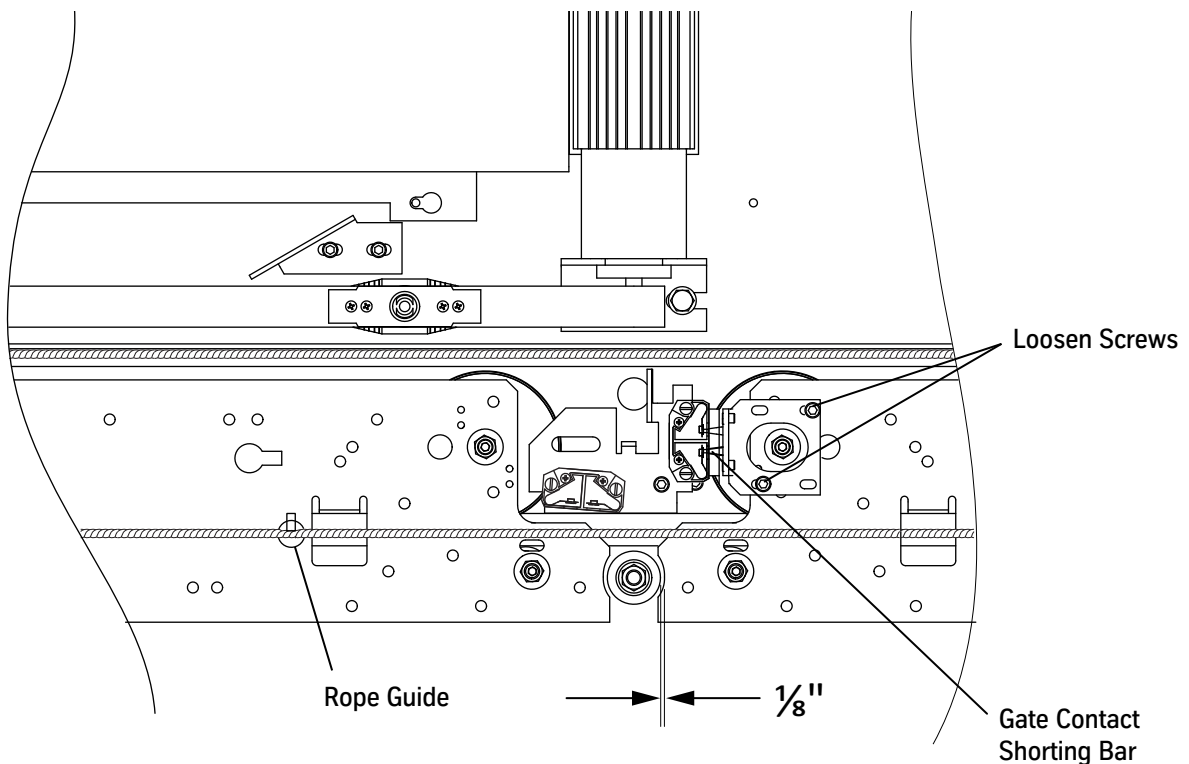

Figure 49 - Adjust Door Contacts/Door Lock Contact (Center-Opening Shown)
2. When the door lock pins are just touching the door contacts, verify that the measurement between the door hanger and the bumper is $\frac{1}{8}$ ". See Figure 49.